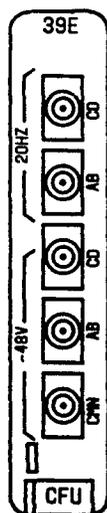

Figure 1—Channel Fuse Unit
1. Get two 39E CFUs (FIG. 1) and inspect for possible damage.